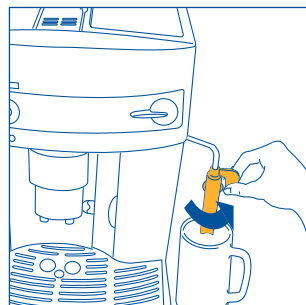
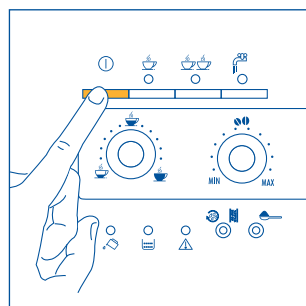
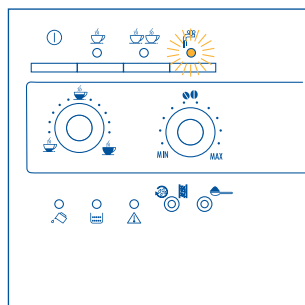

Fig.3
Fig.4
Fig.22
2. Move the milk frother towards the outside and place a cup underneath (Fig.3). Then turn the machine on by pressing the ① button (Fig.4).
- Move the cappuccino frother outwards (fig. 3).
- Place an empty container under the cappuccino frother (fig. 3). Turn the steam knob a half turn counter-clockwise as far as it will go (the light flashes fig. 22). Run off the steam mixed with water for a few seconds until only steam is given off.